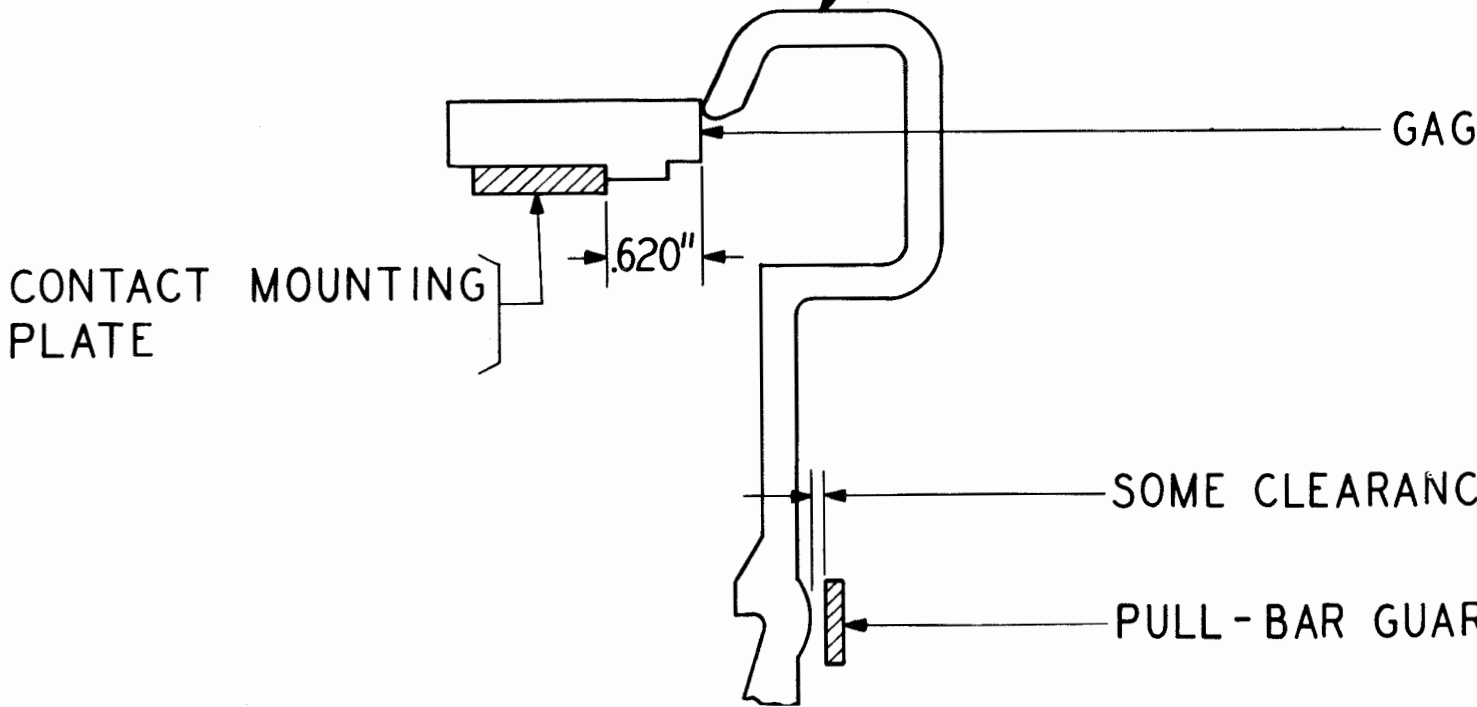

Figure 12
(b) The toes of the two end pullbar hooks and one middle hook should be as close as possible to 0.620 inch in front of the contact mounting-plate. (See Figure 12.)
2.21 Pullbar Guard: The pullbar guard should meet the following requirements with the main bail in its lowest position. (See Figure 12.)